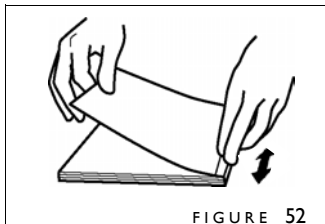

FIGURE 52
8. Now fold the cover tightly all the way over the top of the book block. Rub back and forth on top near the spine to bind the adhesive beneath the cover (figure 52).